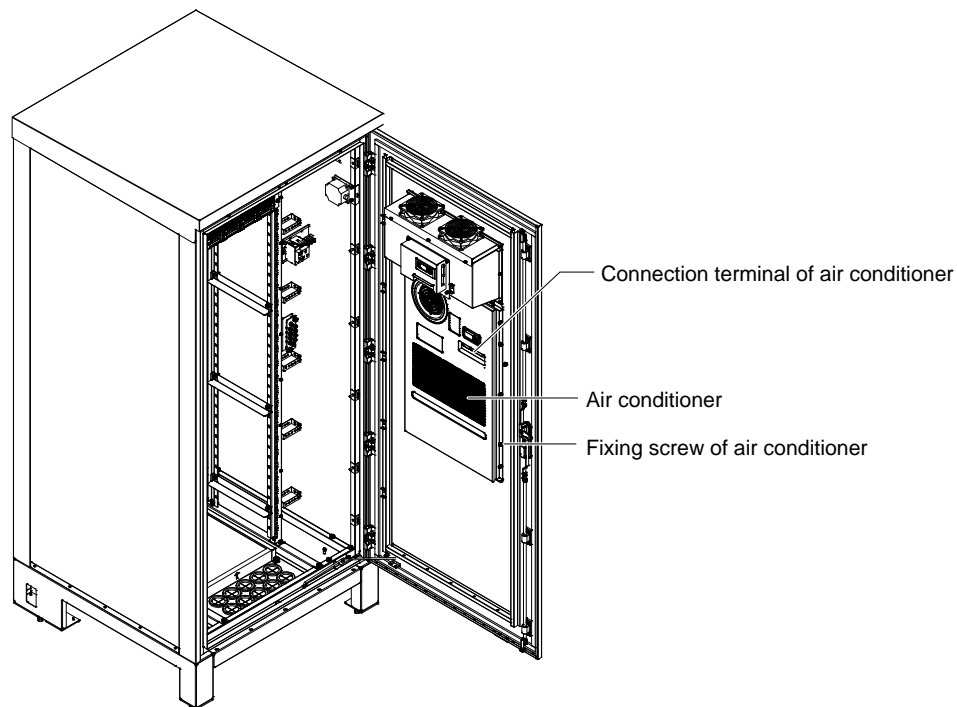

Figure 4-7 Replacement of 1500W air conditioner
2. Use a cross screwdriver to loosen all fixing screws of the air conditioner from the inside cabinet door, as shown in Figure 4-7.